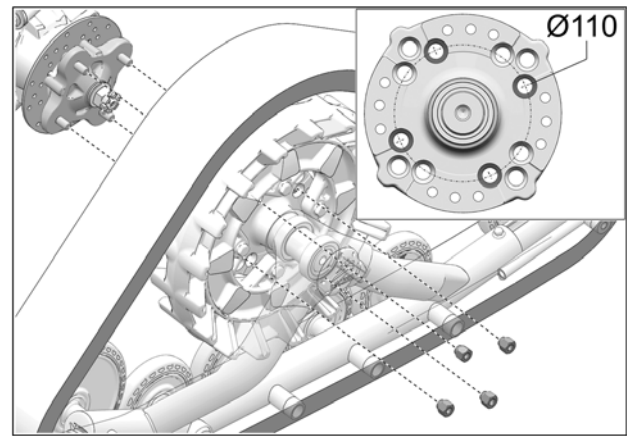

Fig. 6
- Secure undercarriage to rear hub using the vehicle's own lug nuts. Use bolt circle  $\text{Ø}110$  mm. See Fig. 6